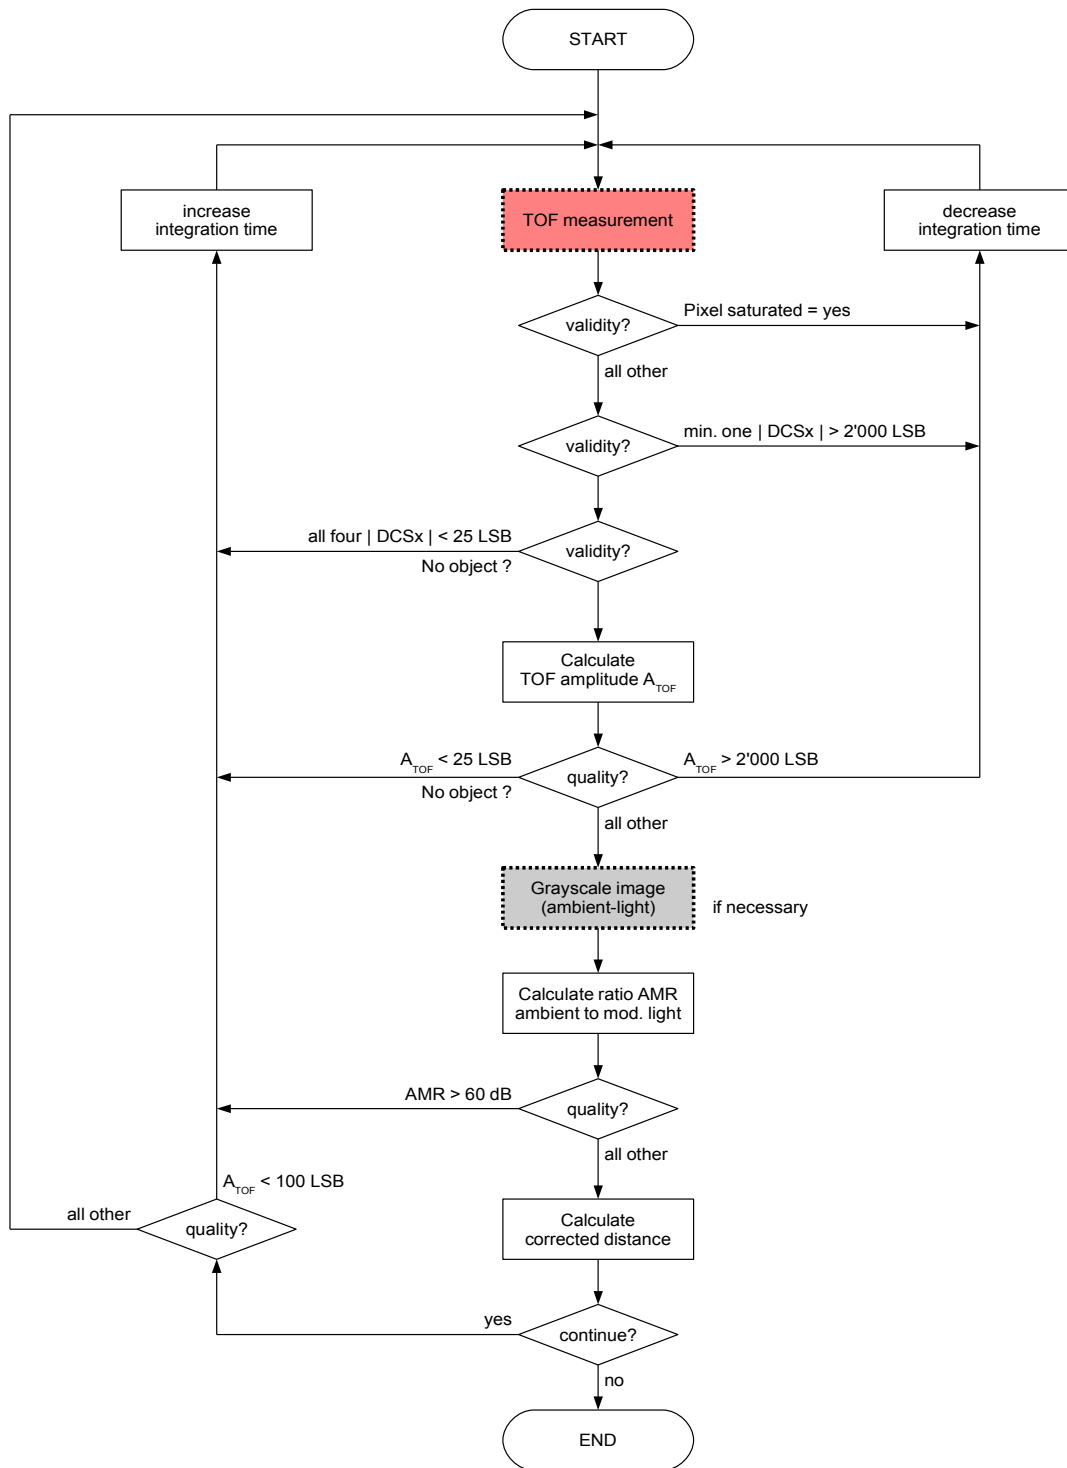

Figure 53: Generic validity and quality flow chart for a single pixel
Table 76: Validity (V) and quality (Q) decision matrix (see also Figure 53)